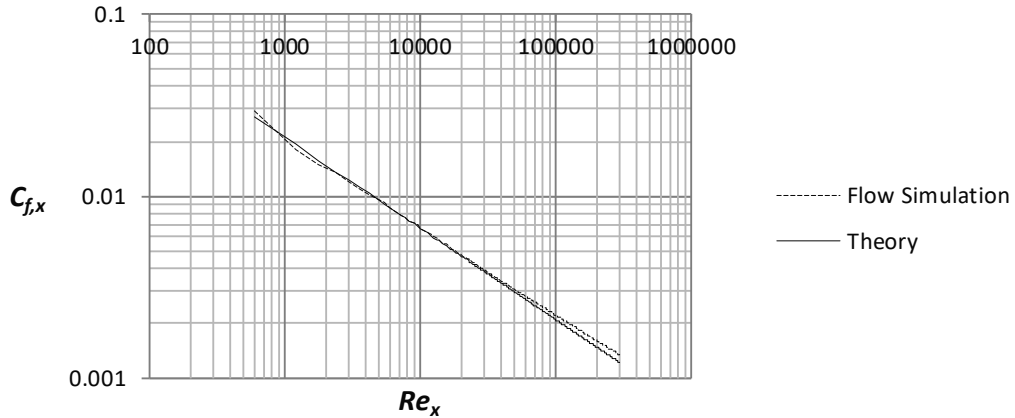

Figure 2.26 Local friction coefficient as a function of the Reynolds number
Place the file “**graph 2.26**” on the desktop. Repeat step **24** but this time choose the sketch **x = 0 – 0.9 m**, uncheck the box for **Velocity (X)** and check the box for **Shear Stress**. Use the file “**graph 2.26**” to create Figure 2.26. Rename the xy-plot to **Local Friction Coefficient**. Figure 2.26 shows the local friction coefficient versus the Reynolds number compared with theoretical values for laminar boundary layer flow.